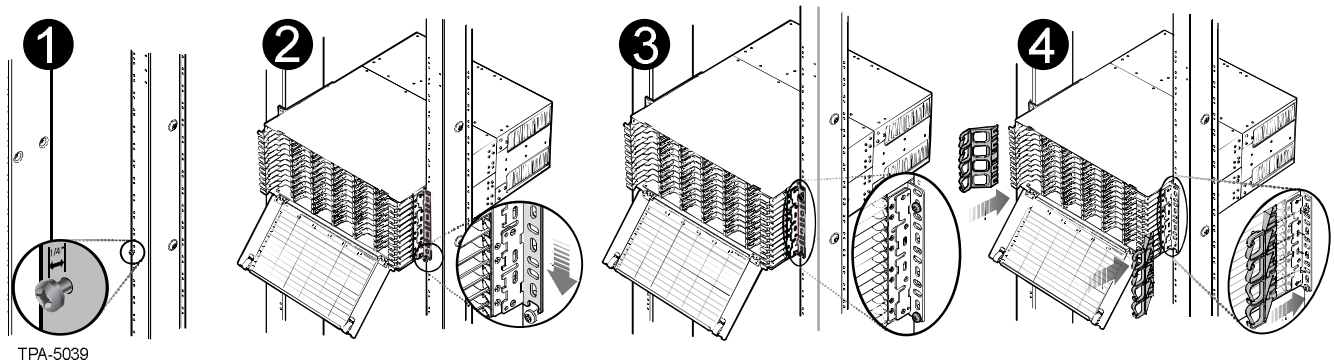

Figure 2 — Rack or Frame Mounting
Step 1: Identify the position on the rack where the housing will be installed and partially install screws to rest the mounting brackets on Figure 2.